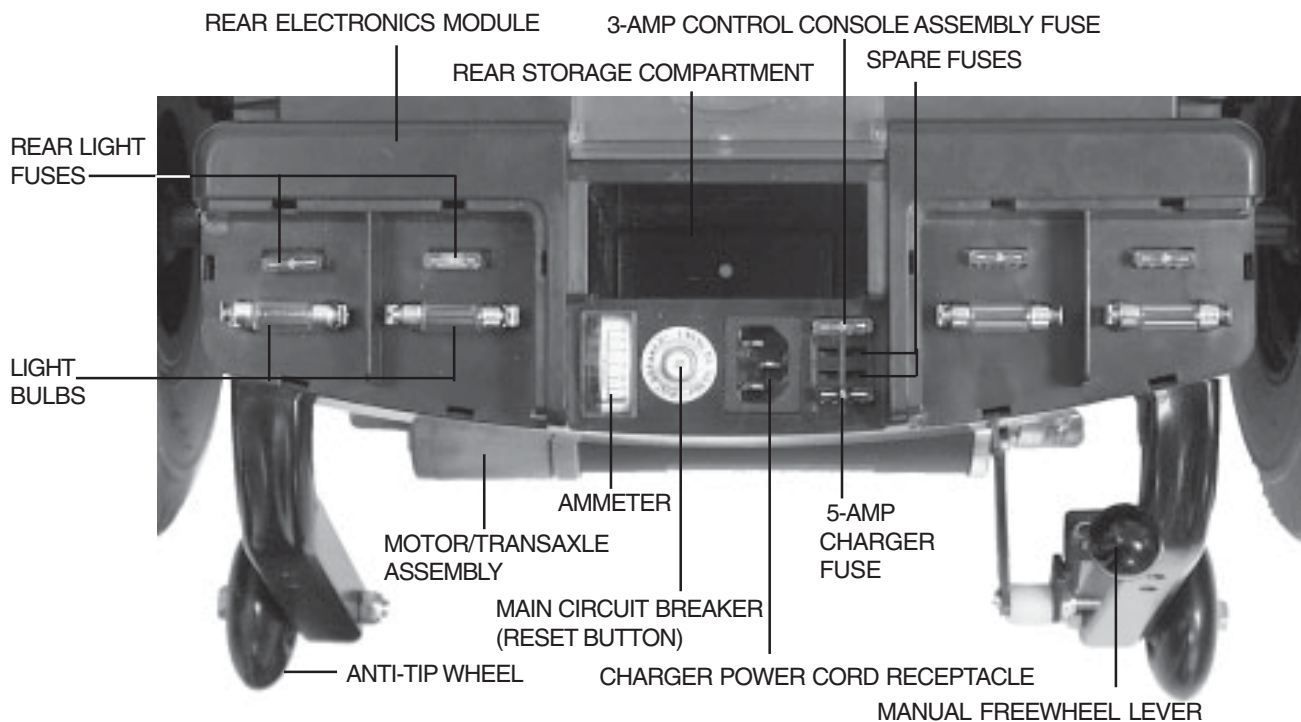

FIGURE 8. REAR SECTION (LIGHT COVERS REMOVED)
The onboard battery charger (not shown), the charger power cord receptacle, the batteries (not shown), the electronics module, the main circuit breaker (reset button), the ammeter, the manual freewheel lever, and the motor/transaxle assembly are located on the rear section of your Legend. See figure 8. Refer to IX. “Disassembly and Assembly” for instructions on removing the rear shroud.
When the voltage in your Legend’s batteries becomes low or your Legend is heavily strained because of excessive loads or steep inclines, the main circuit breaker may trip to protect your Legend’s motor and electronics from damage. See figure 8.
- The manual freewheel lever is located on the end of the motor/transaxle assembly at the right rear of the Legend. See figure 8.
The motor/transaxle assembly is the electromechanical unit that converts the electrical energy of your Legend's batteries into the controlled mechanical energy that drives the Legend's wheels. See figure 8.
The anti-tip wheels are an integral and important safety feature of your Legend. Do not, under any circumstances, remove the anti-tip wheels from your Legend. See figure 8.
3. Make certain that the manual freewheel lever is in the down (drive) position. See figure 8.